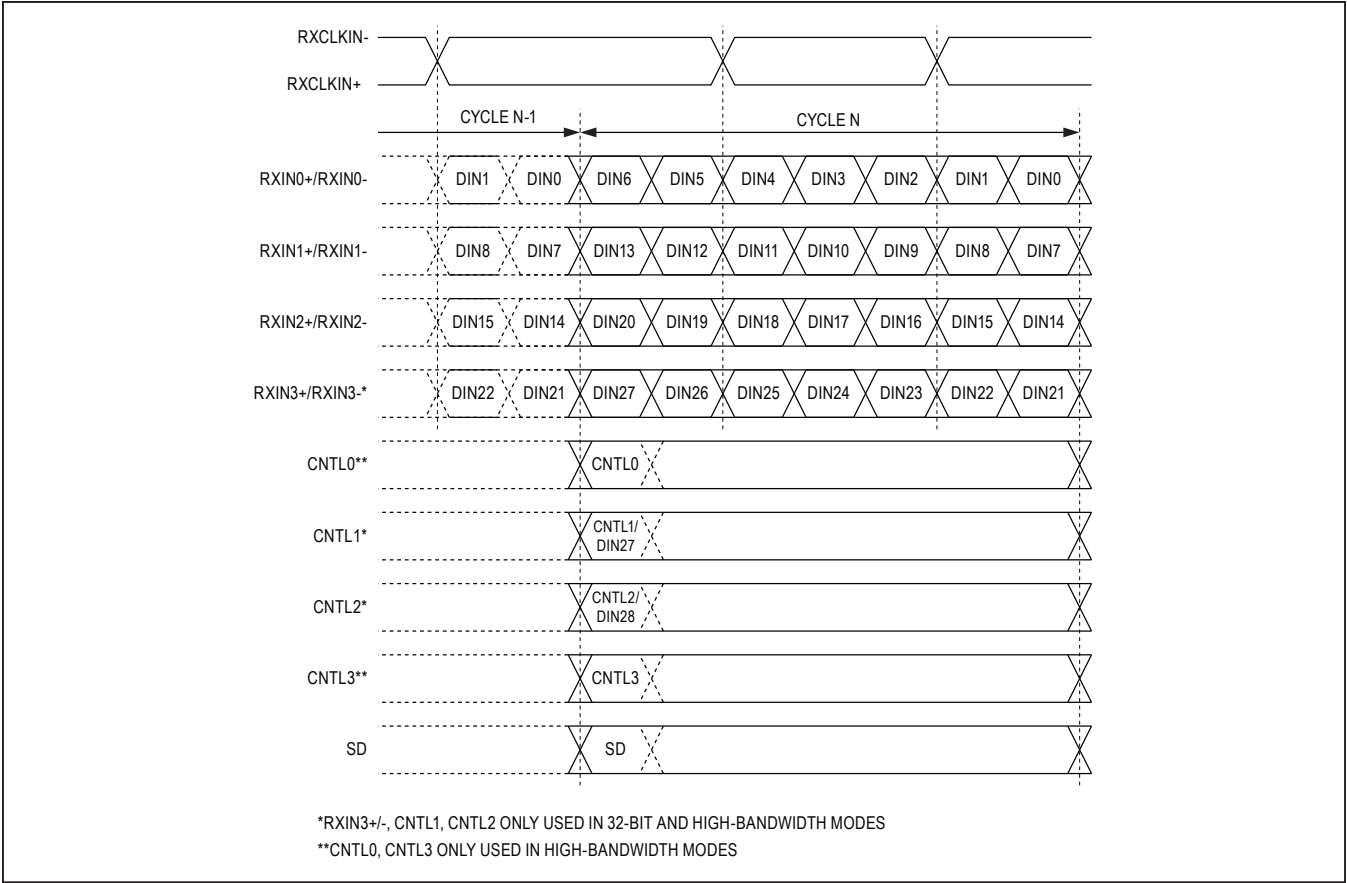
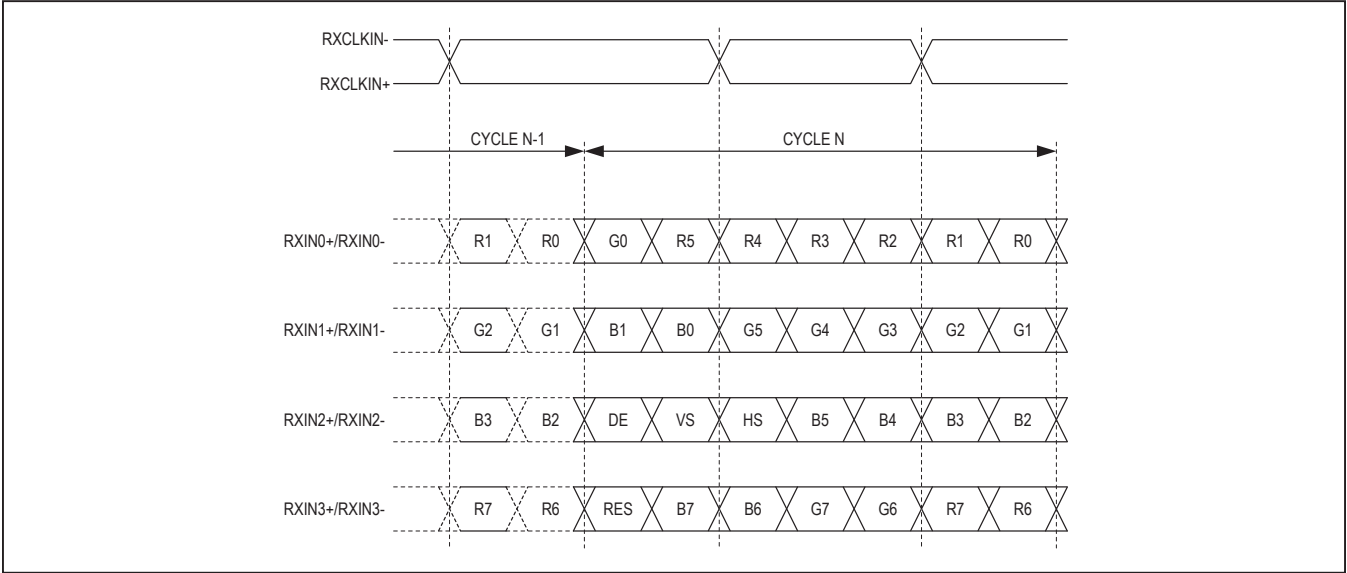

Figure 15. LVDS Input Timing
Figure 16. LVDS Clock and Bit Assignment
| 19     | CNTL1                    | Control Input With Internal Pulldown to GND. Input data is latched every RXCLKIN_ cycle (Figure 15). CNTL1 is not available in 3-channel mode (BWS = low). Set BWS = high or open (4-channel or high-bandwidth mode) to use this input. CNTL1 not encrypted when HDCP is on (MAX9281 only). CNTL1 or RES ("Reserved" from VESA Standard Panel Specification) is mapped to internal bit DIN27. See the <a href="#">Reserved Bit (RES)/CNTL1</a> section.                                                                                                                                                                                                                                                                                                                              |
| 20     | CNTL2                    | Control Input With Internal Pulldown to GND. Input data is latched every RXCLKIN_ cycle (Figure 15). CNTL2 is not available in 3-channel mode (BWS = low). Set BWS = high or open (4-channel or high-bandwidth mode) to use this input. CNTL2 not encrypted when HDCP is on (MAX9281 only). CNTL2 is mapped to internal bit DIN28.                                                                                                                                                                                                                                                                                                                                                                                                                                                   |
**Table 2. Input Map (See Figure 15, Figure 16)**